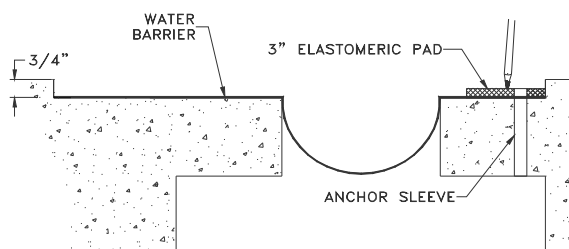

Figure 6
**STEP 14.** If pad anchors are provided, select the pad anchors. Mark the locations for the fastener holes on the 3" wide pad (see Figure 6). Center the fasteners along the pad. The fastener hole spacing is a nominal 20" o.c. Drill countersunk holes into the 3" pad at the marked locations. Standard pilot holes may also be used, if countersinking is not possible.